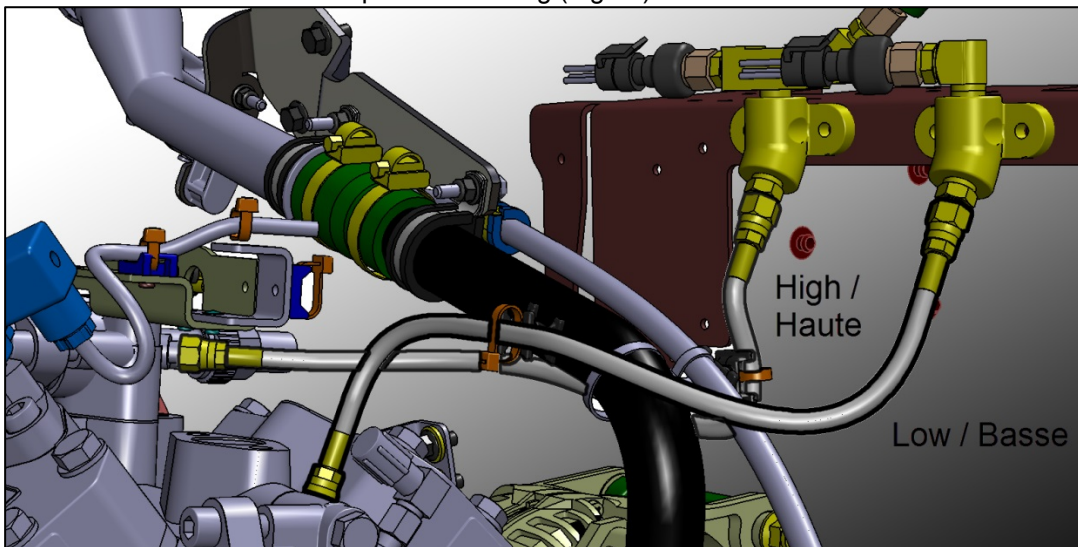

Figure 21 : Alternate hose routing.
- 2.13.9. Install a swivel cable tie base 504751 slightly below the flexible section of the oil fill tube and attach harness. Secure main strand of harness to cable tie base (1) and route towards engine above oil fill tube. (fig. 21).
- 2.13.10. Attach the excess length of clutch cable (2) along main strand of harness as shown in fig. 21.
#3 On the alternator cable to prevent chaffing. (Fig 21)